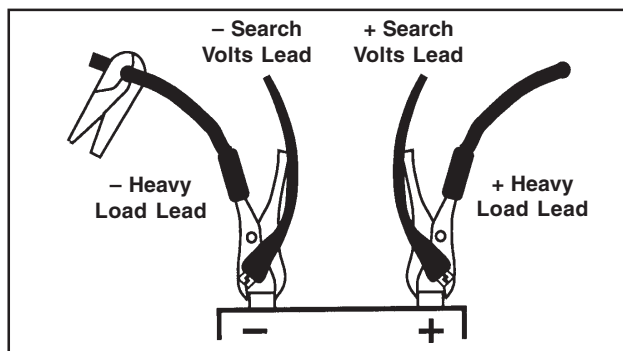
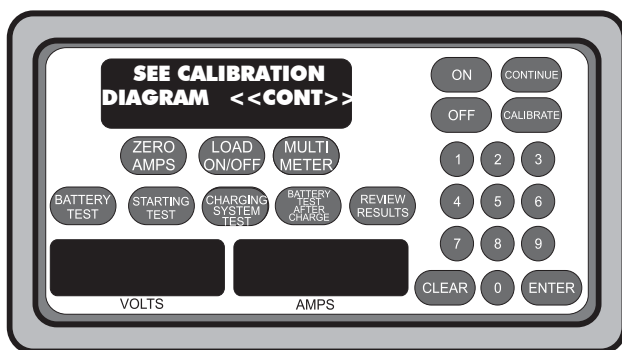

Figure 30
Figure 29
6. The display reads “SEE CALIBRATION DIAGRAM” (see Figure 29). Connect all the test leads as shown in the diagram (see Figure 30) to a good, fully-charged 12-volt automobile battery:
D. Connect the amp probe around the negative load lead cable. When the leads are connected as shown in Figure 30, press [CONTINUE].